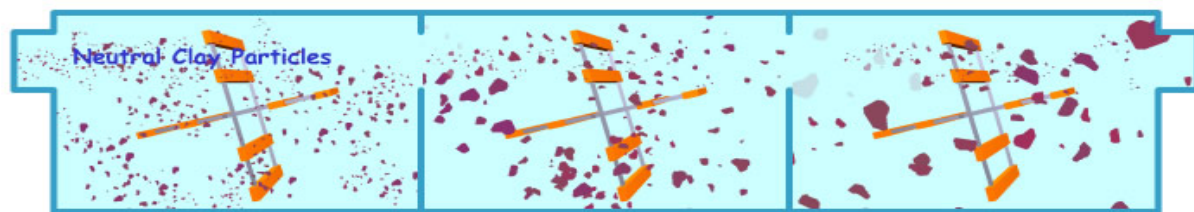

Figure 2.13 Flocculation
- As depicted in Figure 2.13, in multiple stage flocculation, the floc particles are increasing in size. The paddle speeds could be adjusted; each step the particles get bigger and the paddles move slower (but not so slow that the floc particles settle out prematurely).